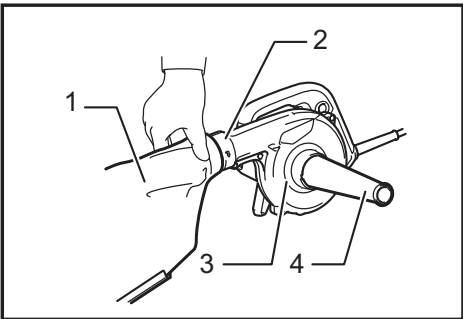

Fig.4
- **Fig.4:** 1. Dust bag 2. Blower outlet 3. Suction inlet 4. Nozzle